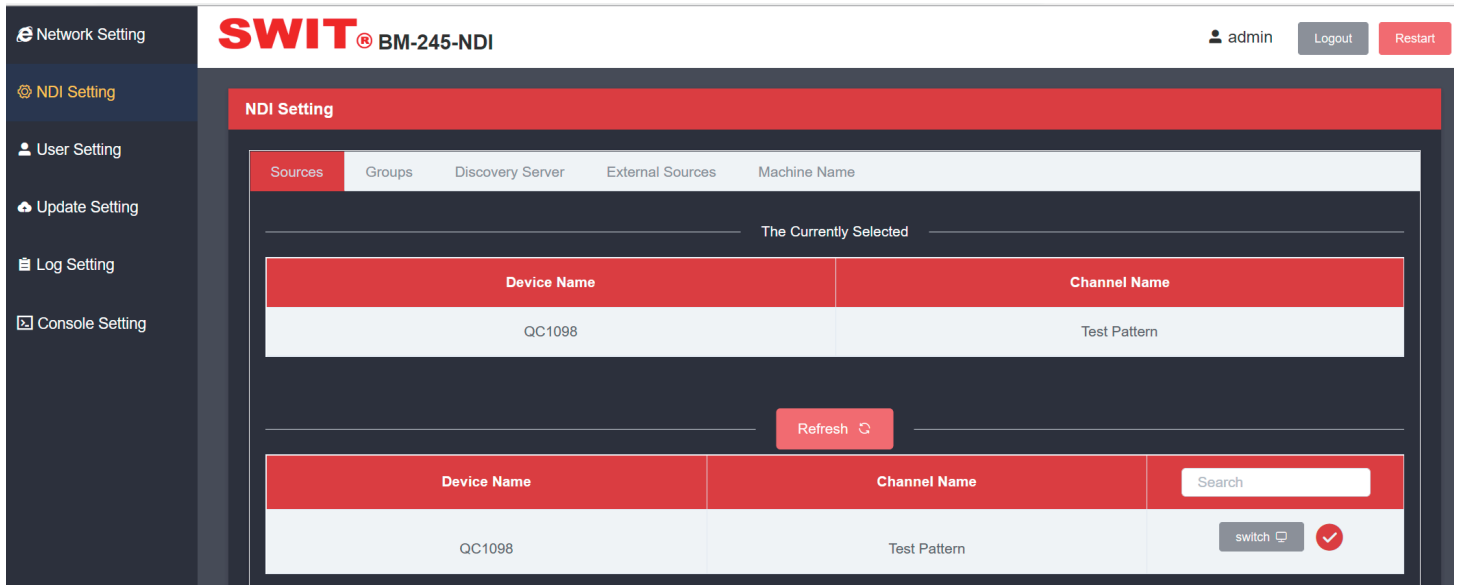

Fig.3
7. In the Search box, search by the known NDI device name or NDI source name for quick search. See Fig.3 below for details.